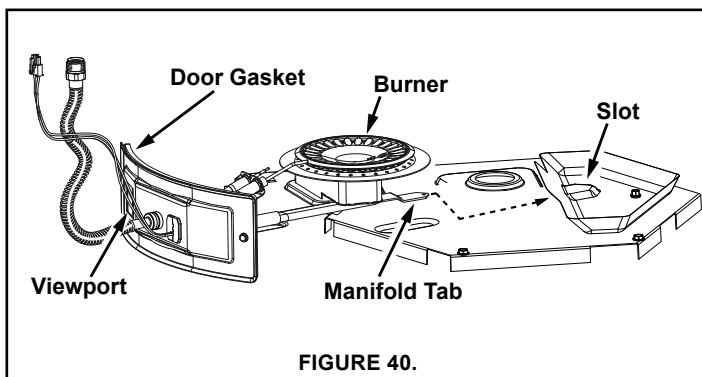

FIGURE 40.
3. Insert the manifold/burner assembly into the burner compartment making sure that the tip of the manifold tube engages in the slot of the bracket inside the combustion chamber (Figure 40).